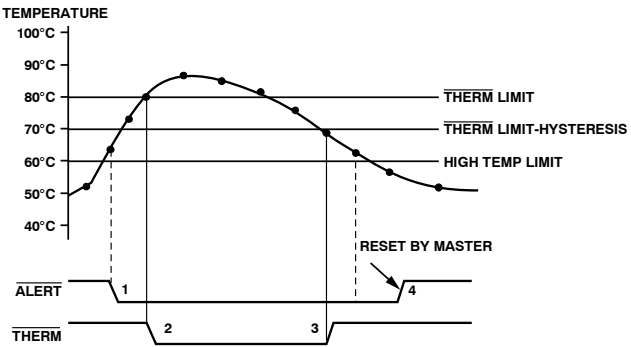

Figure 20. Operation of the ALERT and THERM Interrupts
Figure 20 shows how the THERM and ALERT outputs operate. The ALERT output can be used as a SMBALERT to signal to the host via the SMBus that the temperature has risen. The user can use the THERM output to turn on a fan to cool the system, if the temperature continues to increase. This method ensures that there is a fail-safe mechanism to cool the system, without the need for host intervention.
- The THERM output deasserts (goes high) when the temperature falls to THERM limit minus hysteresis. In Figure 20, the default hysteresis value of 10°C is shown.